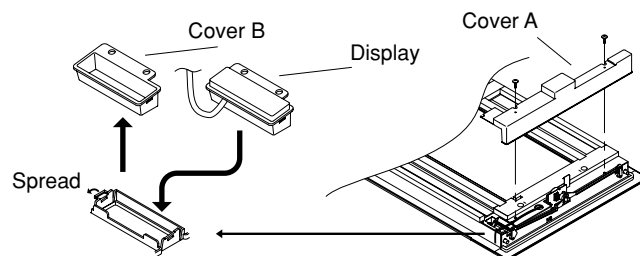

Fig. 11-13
- (1) Remove cover A from the rear side of the panel.
- (2) Cover B is fit inside cover A. Therefore, spread cover A and remove cover B, as shown in Fig. 11-13.